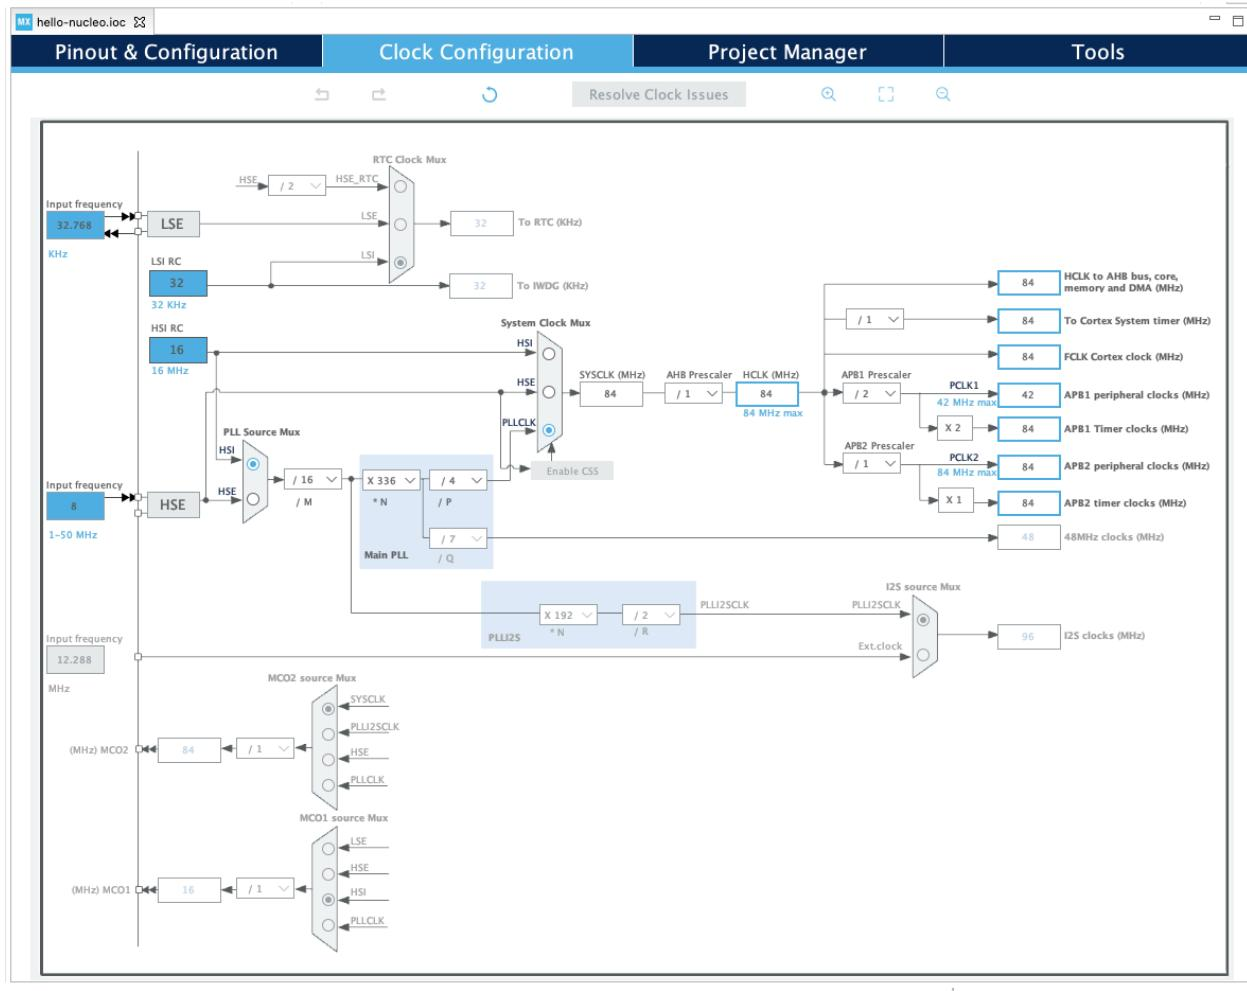

Figure 4.10: The CubeMX clock view
*Clock Configuration* view is the pane where all configurations related to clocks management take place. Here we can set both the main core and the peripherals clocks. All clock sources and PLLs configurations are presented in a graphical way (see Figure 4.10). The first times the user sees this view, he could be puzzled by the amount of configuration options. However, with a little bit of practice, this is the simplest way to deal with the STM32 clock configuration (which is quite complex if compared to 8-bit MCUs).